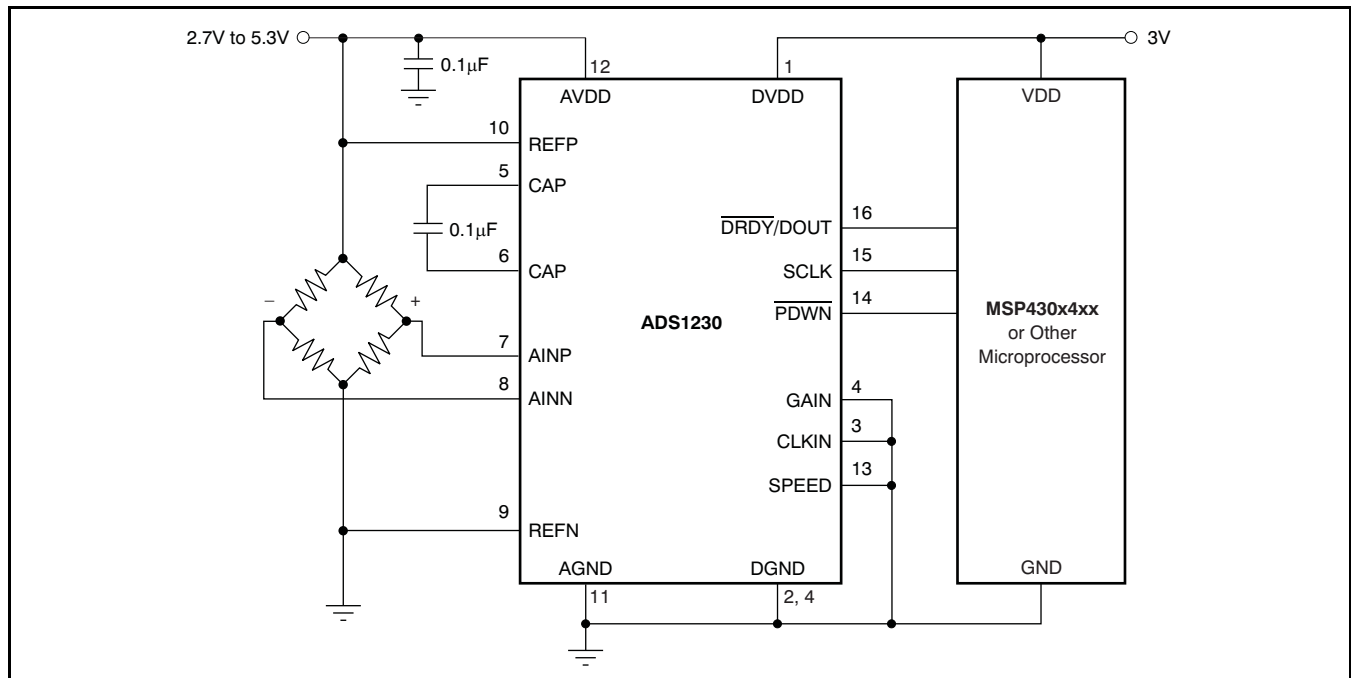

Figure 33. Weigh Scale Application
Figure 33 shows a typical ADS1230 hook-up as part of a weigh scale system. In this setup, the ADS1230 is configured at a 10SPS data rate. Note that the internal oscillator is used by grounding the CLKIN pin. The user can also apply a 4.9152MHz clock to the CLKIN pin. For a typical 2mV/V load cell, the maximum output signal is approximately 10mV for a single +5V excitation voltage. The ADS1230 can achieve 17.5 noise-free bits at 10SPS when PGA = 128. With the extra software filtering/averaging (typically done by a microprocessor), an extra bit can be expected.
- Changed *Figure 33* 20